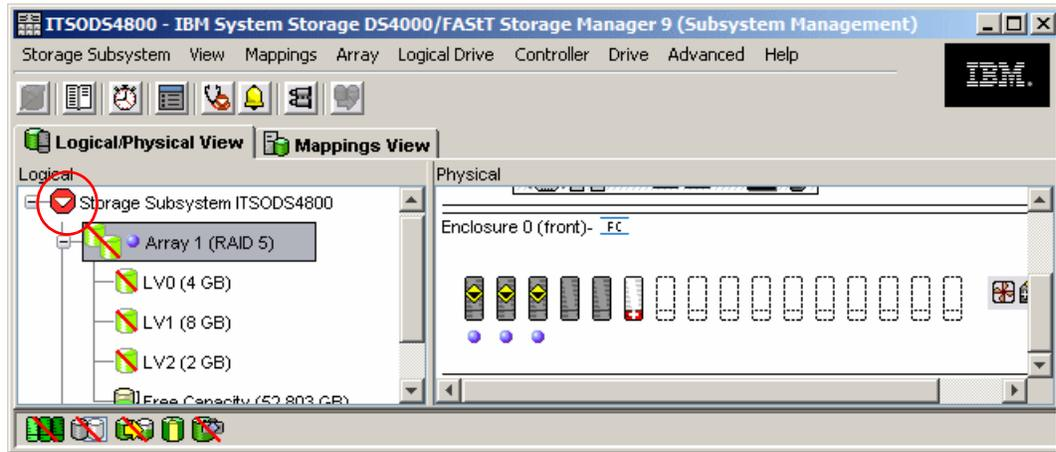

Figure 12-34 Source DS4000: Array offline
- In the confirmation dialog, select **OK** to continue, and wait until the status of the selected array and all the associated disk drives show as offline, as seen in Figure 12-34.